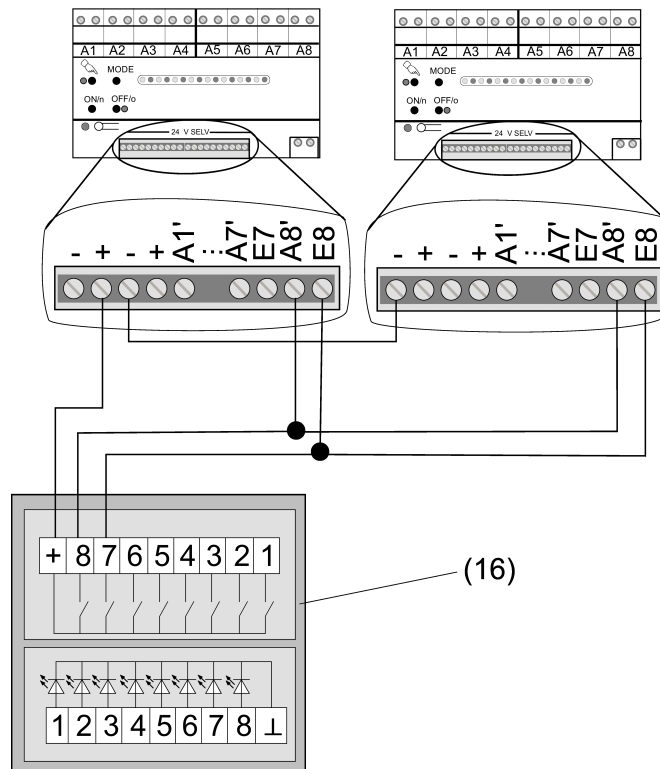

Figure 9: Connection example for Central ON, Central OFF
- Connect the 24 V push-button sensor according to the connection example. Here, channel 7 of the 24 V push-button sensor switches Central ON and channel 8 switches Central Off (see figure 9)